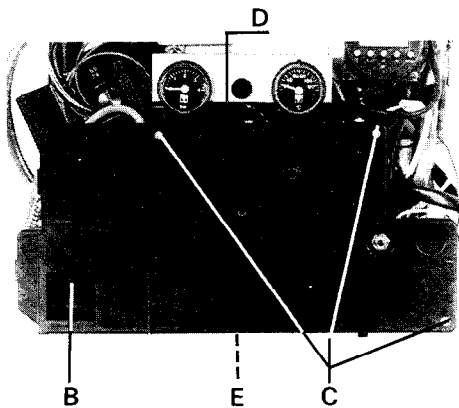
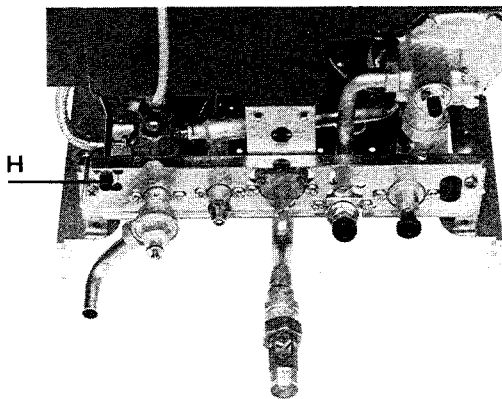

Fig. 53
Fig. 54
- b) Remove fuses by pulling fuse carrier (B) from electrical box (see fig. 54).
- c) Remove 3 screws (C) lift electrical box cover away and unplug from PCB.
- h) Remove one screw (D) and two screws (E). (Electrical box support bracket to lower chassis) (see fig. 53).
- b) Remove the 3 electrical box fixing screws (D) and (E) (see fig. 53) and carefully pull the electrical box towards you, taking care not to damage any capillaries or disconnect wiring.
- c) Turn off main water at valve (see section 6.2 (A)).
- d) Turn off central heating flow and return valves (see section 6 (B)).
- e) Drain secondary side by opening drain plug on bottom of change over valve (H).
- g) Remove front tube (1) from change over valve unclip thermometer sensor, unclip high limit thermostat.
- h) Remove flow pressure tube (2) from C, O, V, to flow switch.
- j) Remove rear tube (4) from C, O, V, to secondary heat exchanger.
- k) Unscrew union nut (5) of mains water inlet to C, O, V.
- l) Unscrew heating flow tube nut (6) from C, O, V.